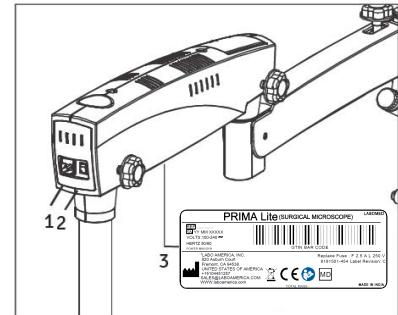

Fig. 42
1. Connect the power cable to the AC inlet socket (1) provided on the back of the swivel arm as shown in the fig.42. Switch on the power from on/off switch (2).
**CAUTION:** Power supply is designed with universal input 100V - 240V AC, 50/60HZ. To plug in follow instruction on electrical label provided at bottom of the arm as shown (3) here in Fig.42.
It is located on the back of the swivel arm Refer fig 42. At 'I' position, microscope is on and cooling fan starts running.